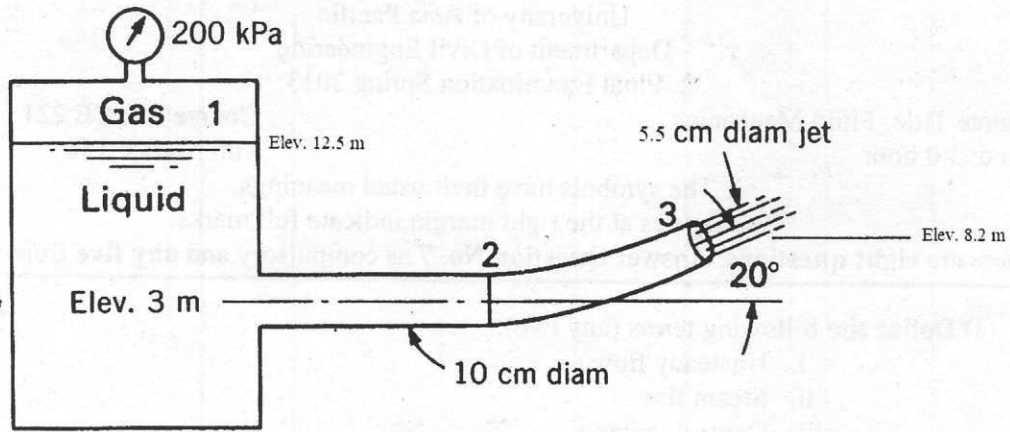

Figure 2
- iii. Energy extracted from each Newton of fluid. (17)
4. (a) Derive an expression for the drag force F_D exerted on a sphere as it moves through a viscous liquid by applying Rayleigh Method. (9)
- (b) A curved pipe section of length 10 m that is attached to the straight pipe section as shown in figure 2. Determine the resultant force on the curved pipe, and find the horizontal component of the jet reaction. All significant data are given in the figure. Assume an ideal fluid with $\gamma = 8.80 \text{ kN/m}^3$. (16)